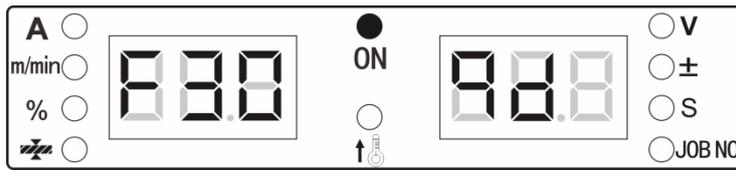

Fig. 3-23 Model display interface
2. Press the "Enter" key to confirm, then the digital tube will display the welding power source model, as shown in Fig.3-23.